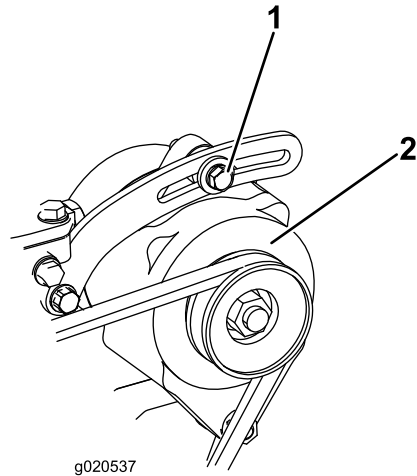

Figure 63
Check the condition and tension of the belt (Figure 63) after every 100 operating hours.
2. If the deflection is not 10 mm (3/8 inch), loosen the alternator mounting bolts (Figure 63). Increase or decrease the alternator belt tension and tighten the bolts. Check the deflection of the belt again to ensure that the tension is correct.